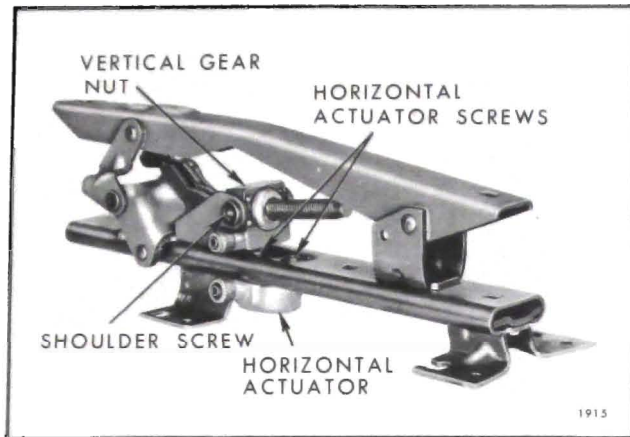

Fig. 15-8—Four-Way Seat Adjuster - "A" Styles
4. Using a clutch type screwdriver or other suitable tool, remove shoulder screws securing linkage to vertical gearnut being replaced (Fig. 15-8).
3. Remove screws securing horizontal actuator assembly to adjuster lower track; then remove actuator from adjuster assembly (Fig. 15-8).